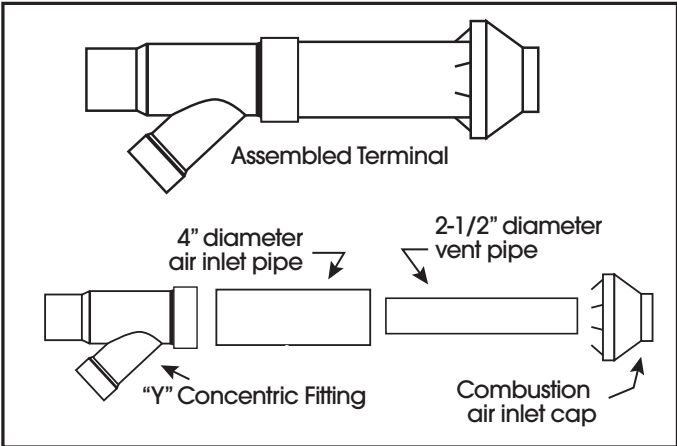

Figure 1-Vent Terminal Assembly
- a. Cement "Y" fitting to larger diameter air inlet pipe (Figure 1).
- b. Cement combustion air inlet cap to smaller diameter pipe (Figure 1).